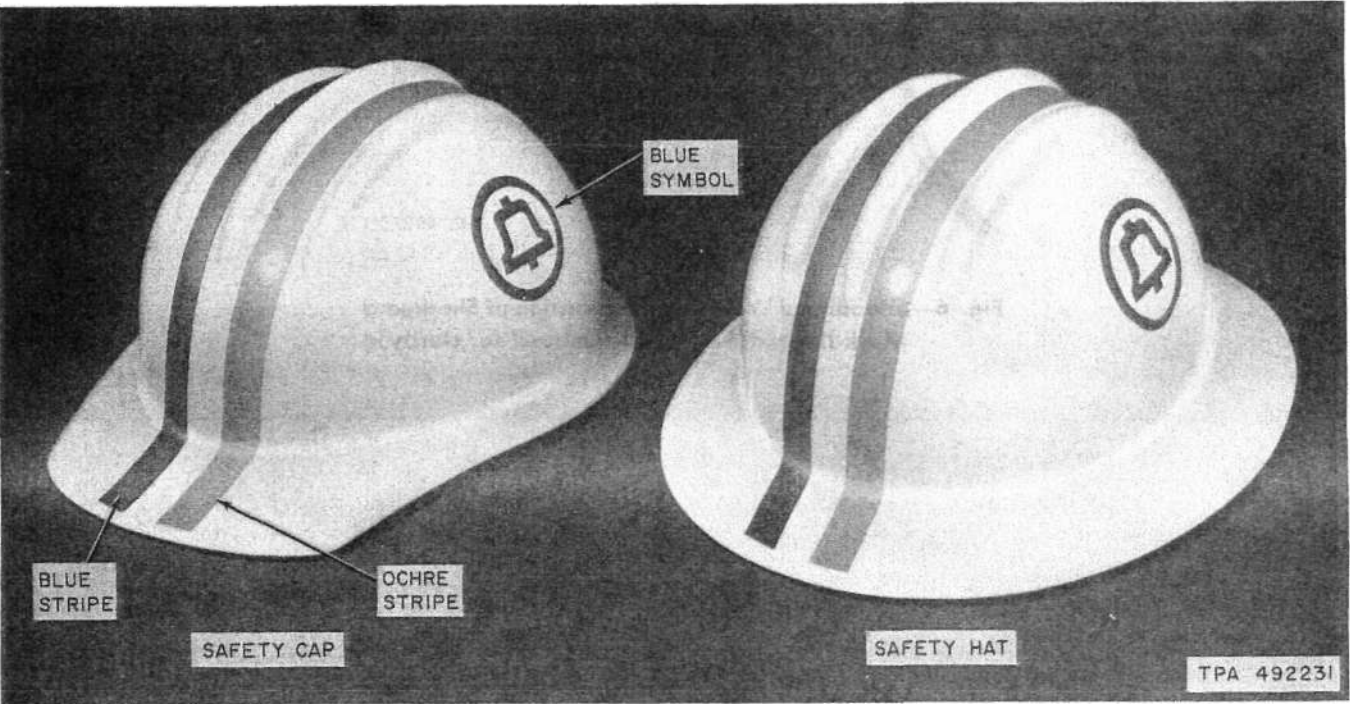

Fig. 7—Estherene II Safety Headgear
2.06 The Estherene II Safety Headgear illustrated in Fig. 7 is available in either a safety cap or safety hat style.